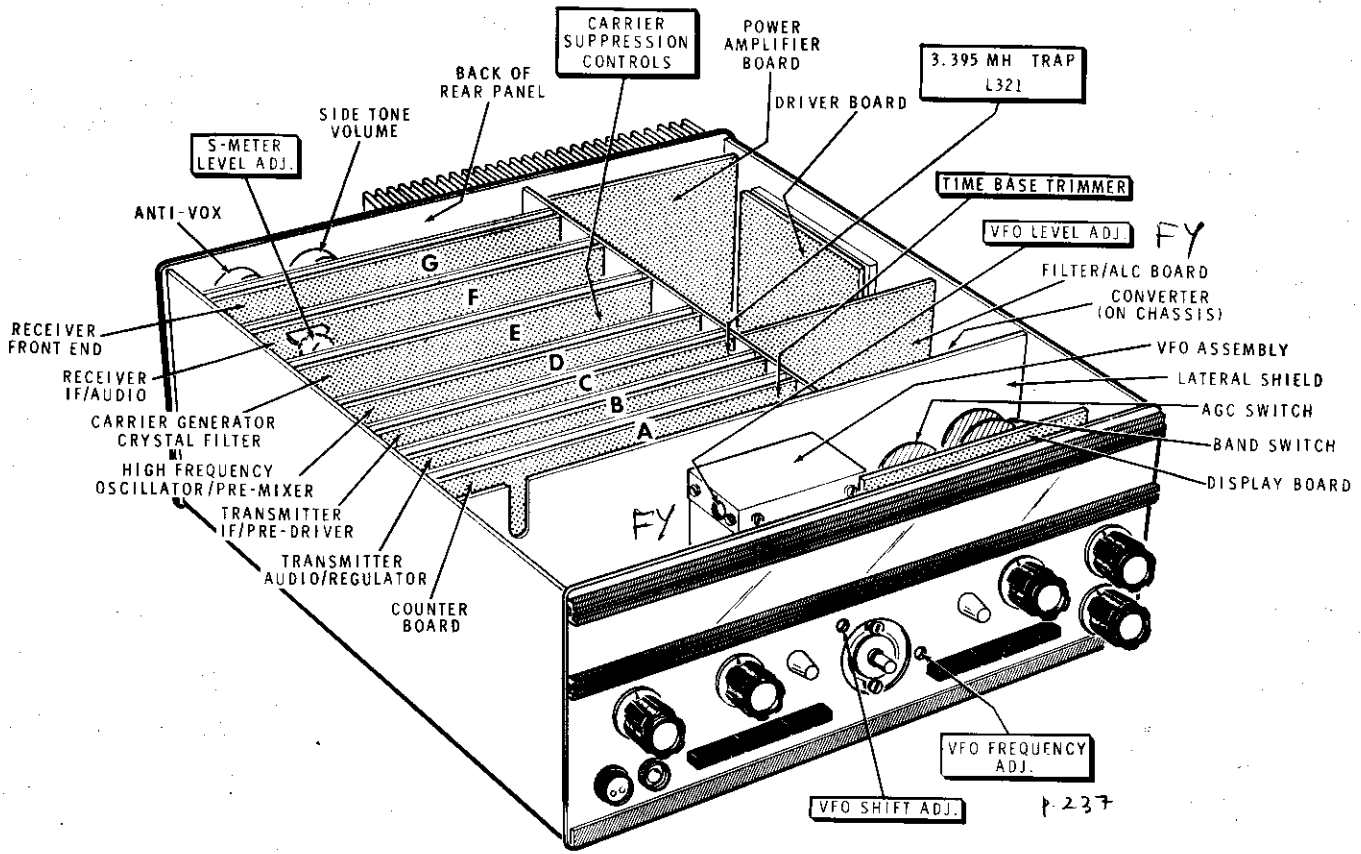

Figure 1-3
- (✓) Refer to Figure 1-3 (fold-out from Page 237) and engage the VFO Level Adjust control through hole FY in the side of the VFO assembly. Turn this control fully counterclockwise.
- Refer to Figure 1-3 (fold-out from Page 237) and engage the VFO adjustment control through hole FY in the side of the VFO assembly. Turn the control clockwise until the display becomes unstable. Then turn the control back until the display is stable.
When you perform any of the alignment steps in the remainder of this Manual, keep the S-meter below a full scale indication by adjustment of the S-Meter Level Adjust control on circuit board F (see Figure 1-3, fold-out from Page 237). DO NOT use the RF GAIN control for this purpose.
- Set the S-METER LEVEL ADJUST control, (see Figure 1-3, fold-out from Page 237) for an S-meter reading of S9+50.